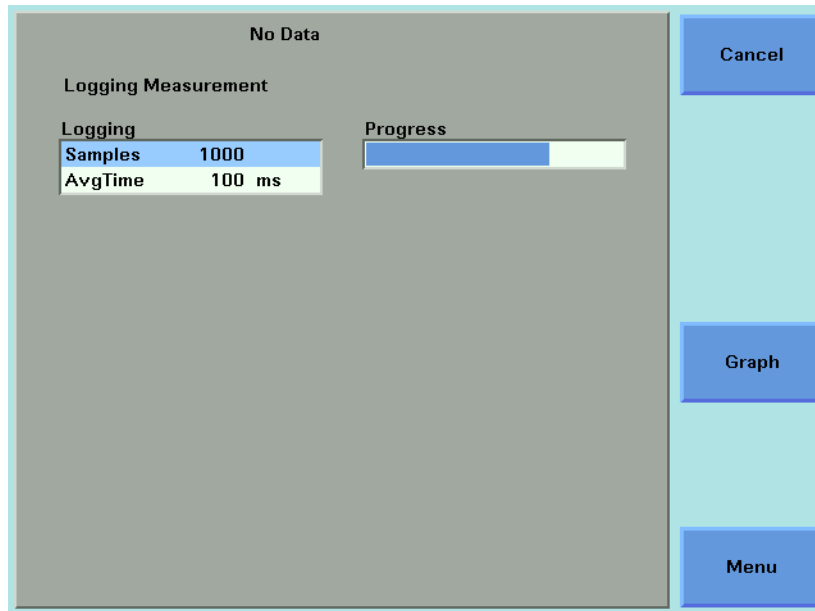

Figure 164 The Logging Measurement Screen - Measurement Running
- 1 You can run the logging application by pressing [Measure]. The Logging Measurement screen, as shown in Figure 164 on page -268, appears. A progress bar shows the proportion of the logging application that has been completed.